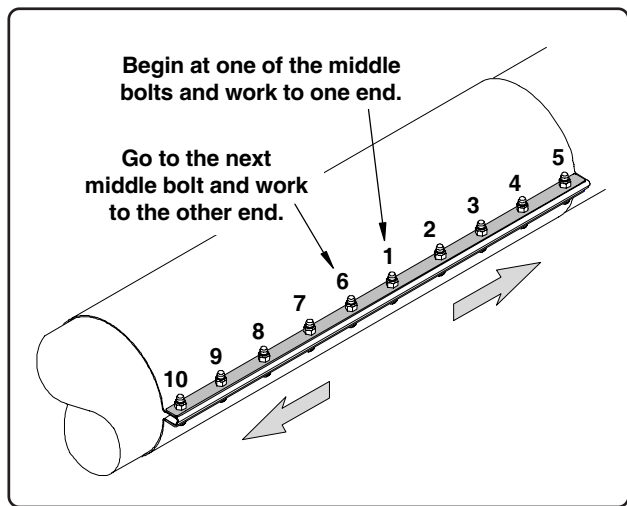

Fig. 24
When snugging up the connecting bands, start with one of the middle bolts and work your way to one end, then start at the next middle bolt and work to the other end (See Fig. 24 for an example).
6. Tighten the connecting band hardware. Tighten the bolts starting with one of the middle bolts and working to one end, then start again on the next middle bolt and tighten to the other end. Repeat this process on each connecting band until all bolts are tight and the overhang on the flanges are tight together (See Fig. 24).